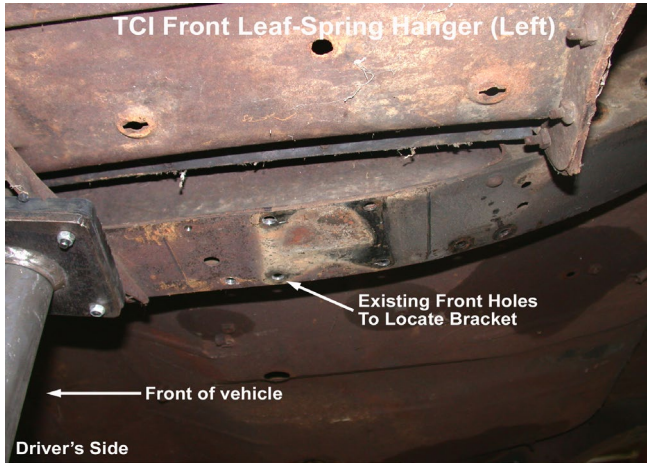

Fig 1
2. We will start by installing the driver's side front leaf-spring hanger bracket (Part stamped "L"). When removing the leaf-spring bracket, make sure to mark the two existing front rivet holes (Fig. 1), as these holes will be used to locate the TCI front leaf spring bracket. With the supplied fasteners tighten the front leaf-spring bracket into place (Diag. 1a), (Slotted holes must be pointed towards the front of the car). Making sure that the bracket is square with the frame. Next, you will need to drill 2 additional 3/8" holes. (Clamping the bracket to the frame will make the drilling easier)